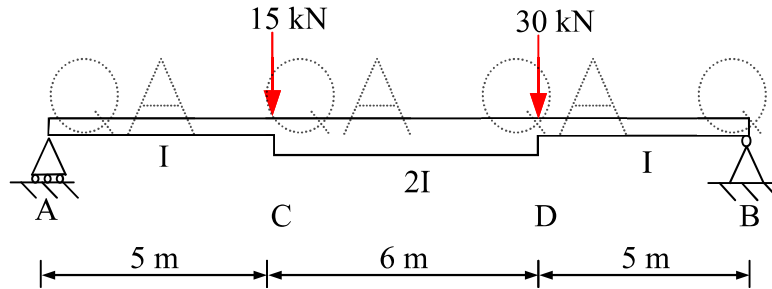

Fig.6
10. Determine the slope and deflection at points A, B, C and D using conjugate beam method for the beam shown in Fig. 6. Use $I = 130 \times 10^6 \text{ mm}^4$ and $E = 200$ GPa.